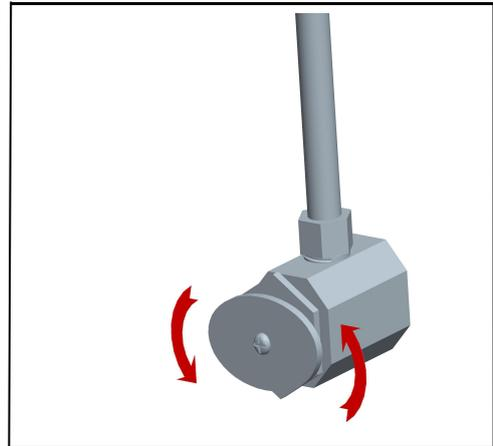

Figure 7
9. Turn on the water supply **(Figure 7)**. Test the faucet by turning the faucet on and off. Make sure the water flow is right and no leaks. If it leaks, turn the water supply off and contact AguaStella at [aguastellausa@gmail.com](mailto:aguastellausa@gmail.com).